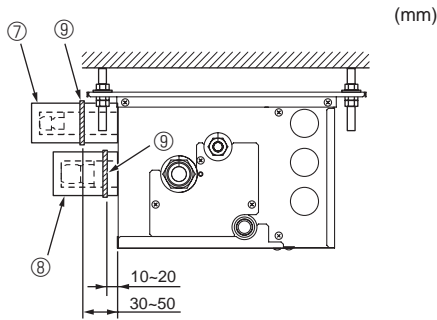

Fig. 7-4
- Ⓕ Band ⑨
- Ⓖ Pipe covers ⑦ ⑧ ⑤ ⑥
► Use the following procedures for indoor connection part which indoor unit is not connected. (Fig. 7-4)
- (1) In order to prevent refrigerant leaks, make sure that the flare nuts are tightened according to the specified torques* in Table 3.
- (2) In order to prevent condensation, install the pipe covers ⑦ ⑧ and fasten them with the supplied bands ⑨.